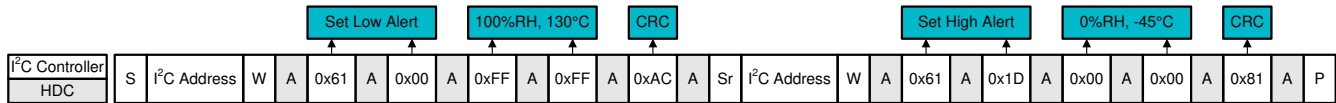

**Figure 8-27. I2C Command Sequence: Example Programming of Set High Alert to 90% RH, 65°C**
- a. Figure 8-27 illustrates the appropriate command to send to the HDC302x.